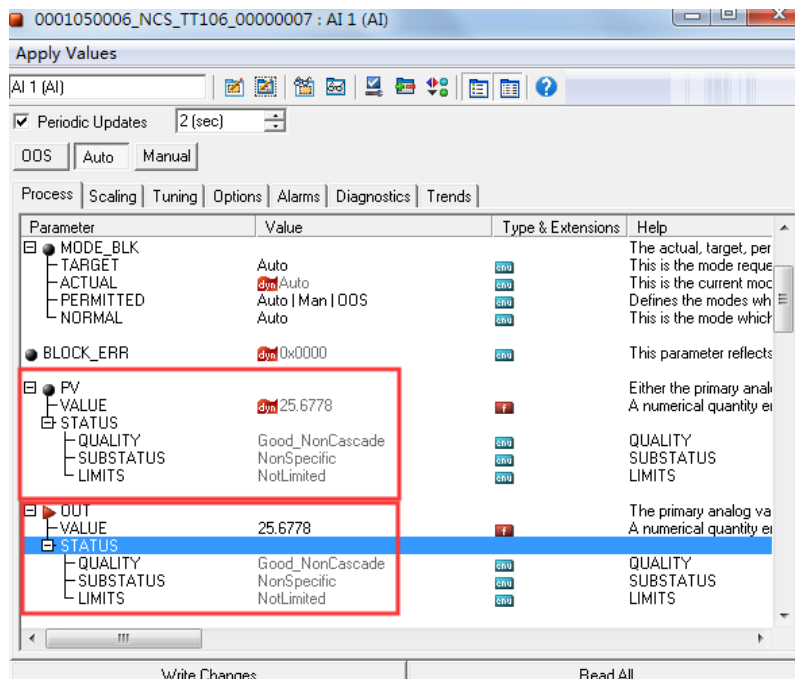

Figure 3.16 AI1 function block acquisition value and status
(4) After completing the configuration of the AI function block, modify the TARGET in the MODE_BLK parameter of the AI1 function block to Auto, and the ACTUAL parameter in the MODE_BLK parameter should be Auto, otherwise modify the configuration according to the prompt of the BLOCK parameter. In the PV and OUT parameters, you can see that the temperature value of the AI1 function block is 25.6778 and the status is Good_NonCascade. At this time, the AI1 function block is normal, as shown in Figure 3.16 below.